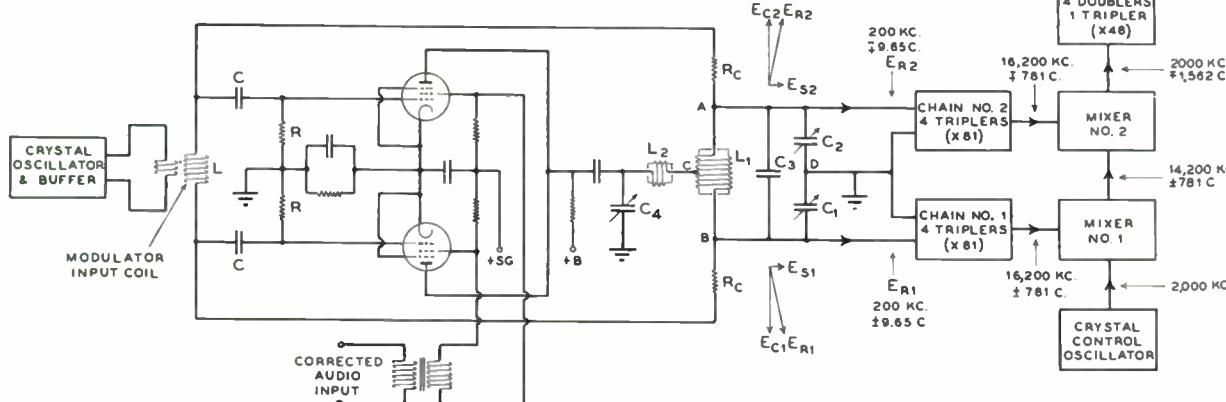

FIG. 6. BLOCK DIAGRAM OF THE ARMSTRONG DUAL CHANNEL MODULATOR, SHOWING ESSENTIAL ELEMENTS OF THE CIRCUIT
The coil L_1 , Fig. 5, has two terminals and a center tap, and can be regarded as a 3-terminal network. This is illustrated in Fig. 6 at (A). Each half of coil L_1 represents inductance in itself. This type of inductance is termed self-inductance, and is the amount of inductance offered by the turns in each half of the coil when the other half is disconnected. The self-inductances are denoted by L_A and L_B in diagram (B) of Fig. 6.
fect causes the inductance of the entire coil to be increased. Thus the inductance of the coil becomes the sum of the self-inductances of its sections, increased by twice the amount of mutual inductance M. In diagram (B) of Fig. 6, the inductance offered by the coil between terminals A,B, is $L_A + L_B + 2M$.
This leads to the three-terminal network of diagram (C), Fig. 6, which is the equivalent of the coil in diagrams (A) and (B). The equivalence can be easily checked by adding the inductances between each pair of terminals.
Coil L_1 of Fig. 5 can be replaced by the mathematically equivalent network of diagram (C) Fig. 6. This substitution has been made in Fig. 7 where the circuits to which the output of the balanced modulator is delivered have been redrawn. In Fig. 7 the generator represents the double sideband voltage developed by the modulator. The capacity across L_1 of Fig. 5 has been assumed in Fig. 7 to reside entirely in two series variable condensers C_A and C_B , rather than in the form of a fixed capacity C_3 and two variables, C_1 and C_2 , as in Fig. 5. This change has been made to simplify the explanation of circuit operation, since the fixed condenser C_3 of Fig. 5 is employed solely to avoid the use of excessively large variable condensers.